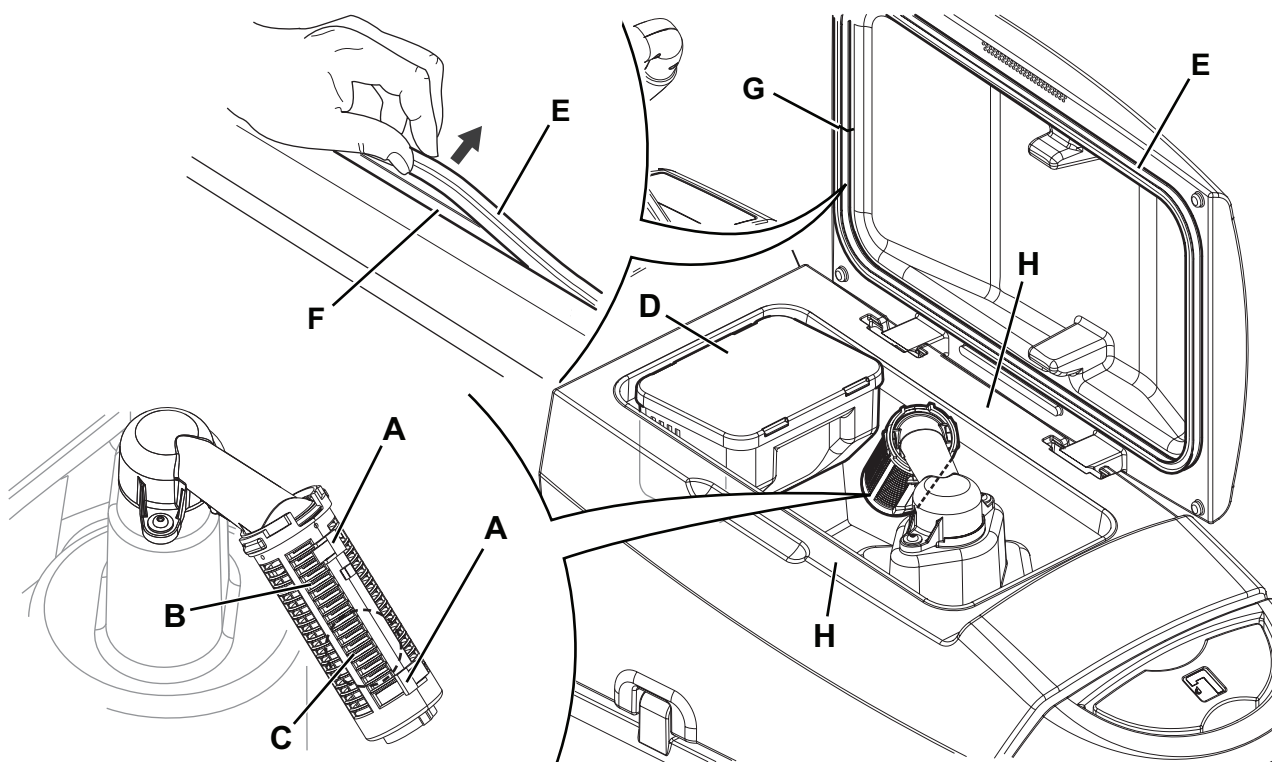

Figure 8
2. Ensure that the machine is off and the ignition key (41) has been removed (if equipped).
3. Drain the water in the tank through the hose (12).
4. Raise the cover (34).
5. Wash the inside of the tank (33) and the cover with clean water.
6. Clean the vacuum grid (31), release the fasteners (A, Fig. 8), open the grid (B) and recover the float (C) then clean it carefully and reinstall it.
7. Remove the debris collection tank (D) and open its cover, then clean it carefully and reinstall it on the vacuum hose.
8. Check the condition of the tank cover gasket (E).